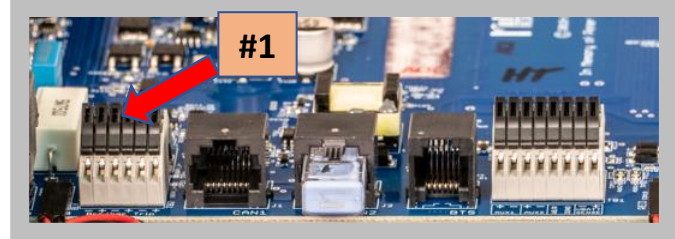

Figure 8
Pre-Installed Wiring (Figures 8, 9, 10, & 11)
PV Breaker Trip Wires (Figures 8 & 9)
2. Raise the Barcelona's terminal block clamp levers (**Figures 8 & 9, #1**) marked "Breaker Trip."